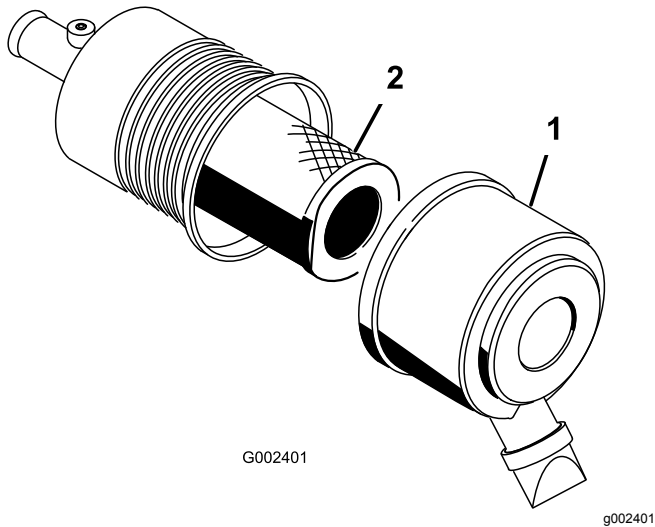

Figure 40
7. Install the cover orienting the rubber, outlet valve in a downward position, between approximately 5 o'clock to 7 o'clock when viewed from the end (Figure 40).